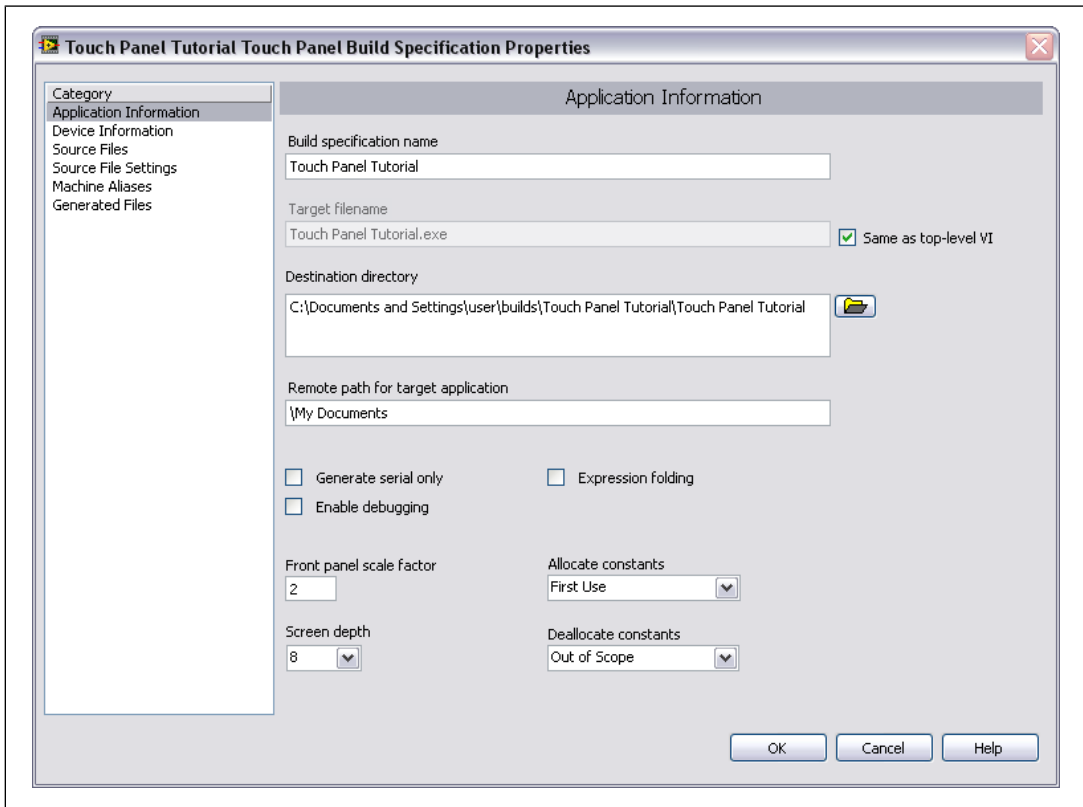

Figure 5. Defining the Application Information
1. Define the settings for the Touch Panel application, as shown in Figure 5.